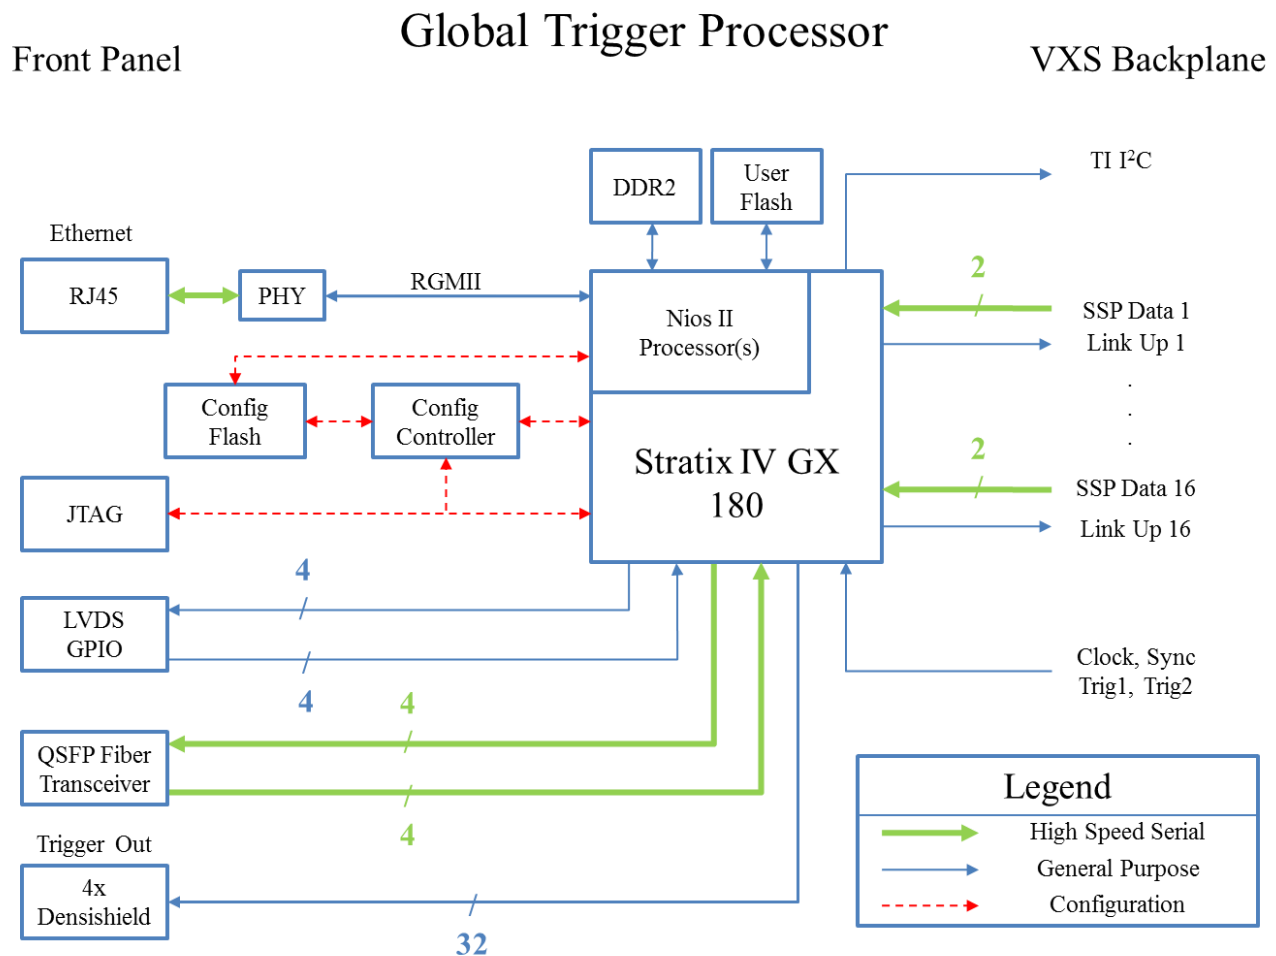

Figure 3a: Global Trigger Processor Hardware Block Diagram
Figure 3a shows a detailed block diagram of the Global Trigger Processor module. There are 4 major sections to this module and include: signal distribution, high speed VXS serial link management, trigger algorithm processing, and CPU management interface.
As shown in Figure 3a, one FPGA will process all sixteen sets of SSP serial data streams. It is responsible for retiming the subsystem data streams such that a fixed latency trigger can be formed by the final computational stage. The retiming is done by using the fixed latency “SYNC” signal from the Trigger Interface (TI). When the Level 1 trigger system starts, by deassertion of the “SYNC” signal, it will buffer the subsystem streams in a FIFO and after a fixed number of cycles (the number of cycles is determined by ensuring each SSP has been able to send at least to the GTP 2 subsystem words) the FIFOs will be read out simultaneously, which turns the SSP streams into a fixed latency stream for the final stage in the Level 1 trigger.